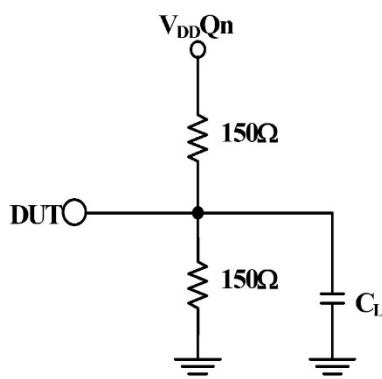

Figure 5. Test Load Circuit for tOSHL and tOSLH Measurements
5. Test load = 40pF, terminated to $V_{DD}/2$. All outputs are equally loaded. Reference Figure 5 for clock output loading.